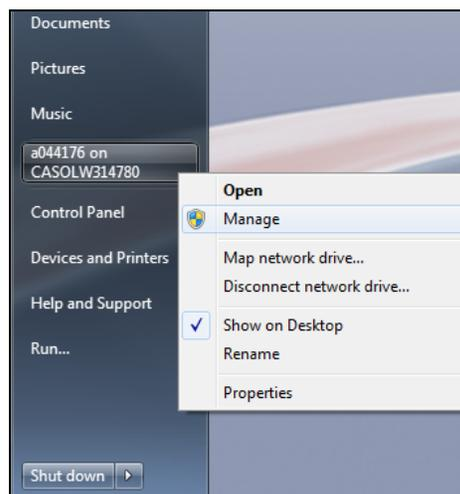

Fig.10
1. In the Windows menu, right click on your desktop Icon and choose “Manage” to access the Computer Management Panel (Fig.10).